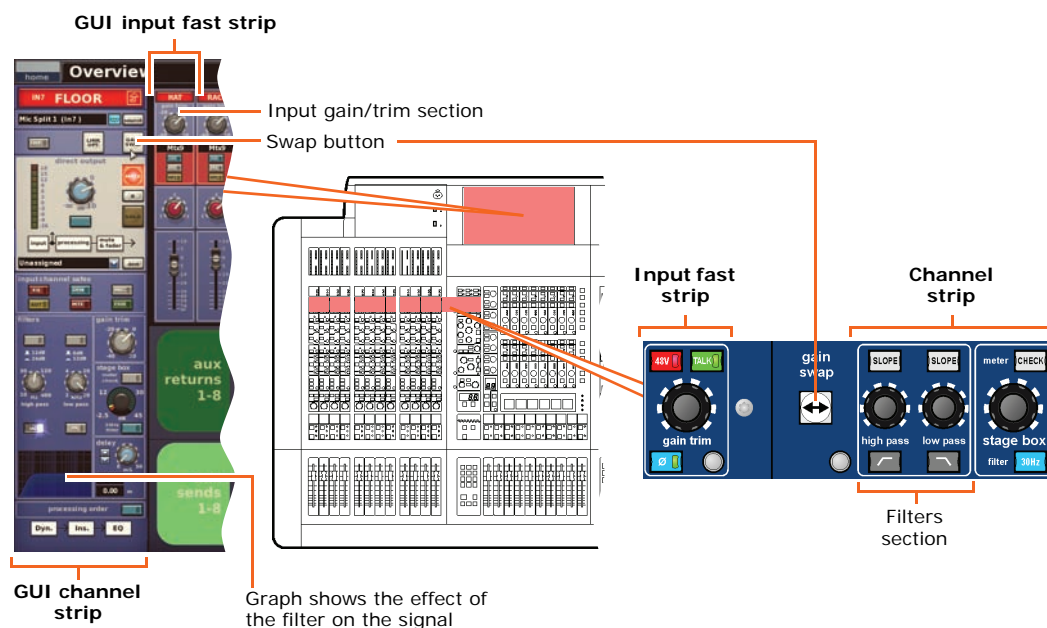

Figure 15: Gain and filter sections of the input strips
- 1 In the **gain trim** section of an input fast strip, press the quick access button (see Figure 15 “Gain and filter sections of the input strips” on page 99). This selects the input channel and assigns its configuration processing area to GUI channel strip, which contains the **GAIN SWAP** button.
- 1 In the **gain trim** section of an input fast strip (see Figure 15 “Gain and filter sections of the input strips” on page 99), press the quick access button. This selects the input channel and assigns its configuration processing area to the GUI channel strip, which contains the **filters** section.